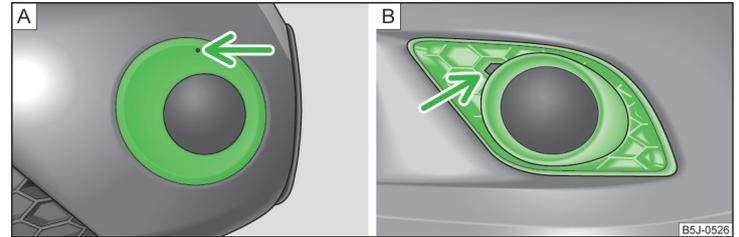

Fig. 159 Front bumper: Fabia Scout/Fabia RS
- › Insert the tool into the opening above the fog light » Fig. 159 - **A** (Fabia Scout) » page 159, *Vehicle tool kit* and remove the cover.
- › Insert a finger into the opening next to the foglight » Fig. 159 - **B** (Fabia RS) and remove the cap.